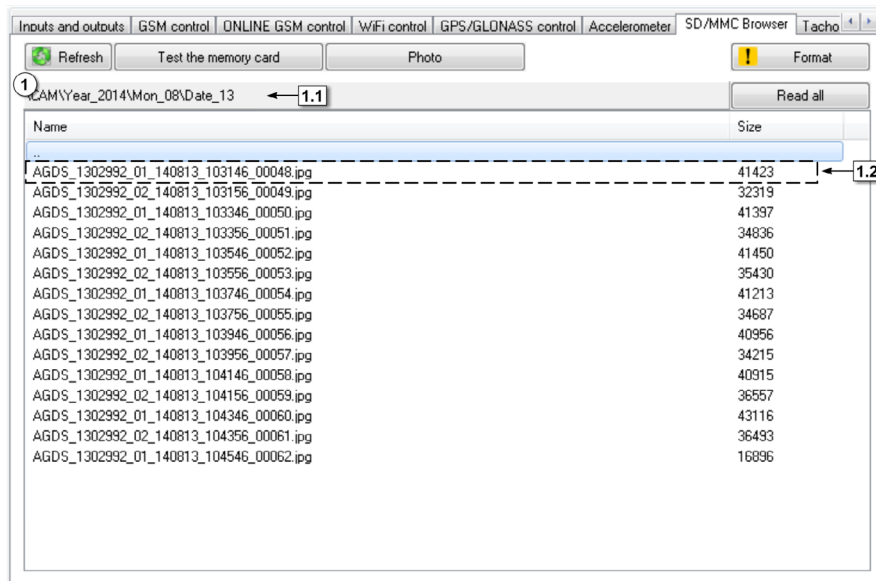

Fig.61. “SD/MMC Browser” tab.
On this tab, the user can test and browse SD card or eMMC of the AutoGRAPH device. SD card and eMMC memory are intended to store photos from cameras connected to the device and log files. To do the memory test, connect the device to a PC. Make sure that the SD card is inserted. Then, press the “Test the memory card” button (Fig.61). After finishing, the test status will be displayed in the status window of the application.
## The memory content (Fig.61, i.1).
The path to the opened folder of the memory is displayed above the list (Fig.61, i.1.1). Pressing the path opens the \CAM folder which is located on local hard drive and contains photos copied from the device memory to the hard drive.
To copy photo from the device memory to hard drive, double click the photo. The copy of the photo will be loaded in the \SD folder in the application folder. The \SD folder has nested internal folders like the \CAM folder on the device memory. To open the \SD folder, press the path above the list of files (Fig.61, i.1.1).
The "Setup" button saves the settings into the connected device. When settings are successfully applied to the device you will see  icon and a message on successfully saved settings in a status window (Fig.61, item 2).